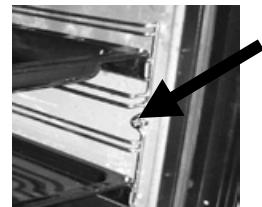

Fig. 10
2. Unscrew the screws on the internal sides of the oven (Fig. 10) and remove the side racks.